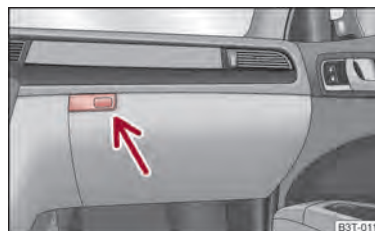

Fig. 92 Dash panel: Storage compartment on the front passenger side
- Press the button → fig. 92 - the lid folds down.